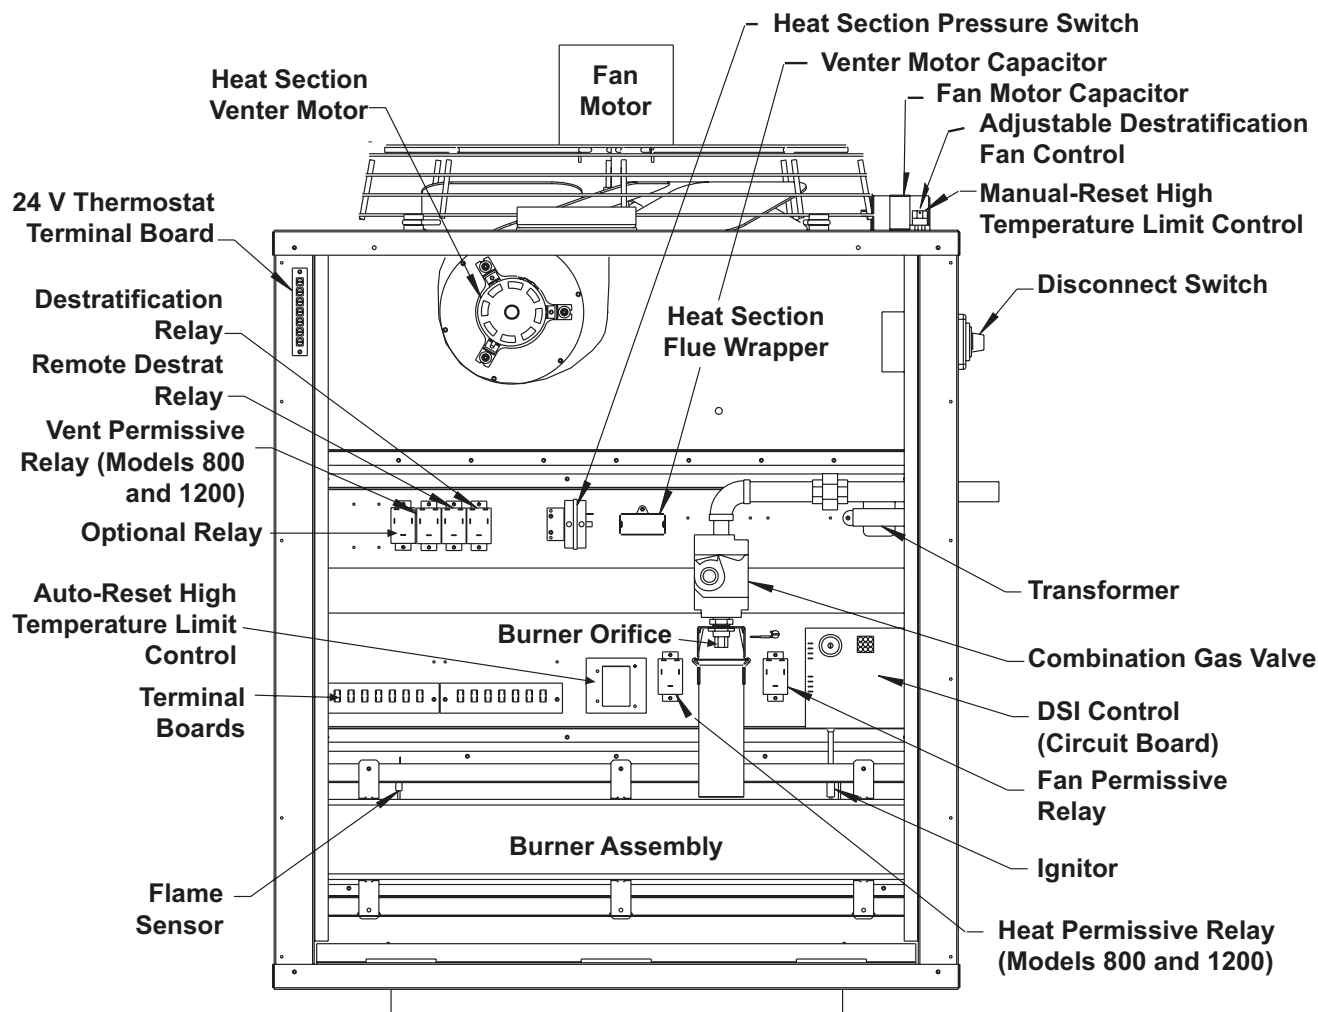

Figure 1. Heater Components
Heater component locations are shown in Figure 1.
- a. Carefully remove existing burner orifice (see Figure 1).
- c. Install replacement burner orifice (see Figure 1).